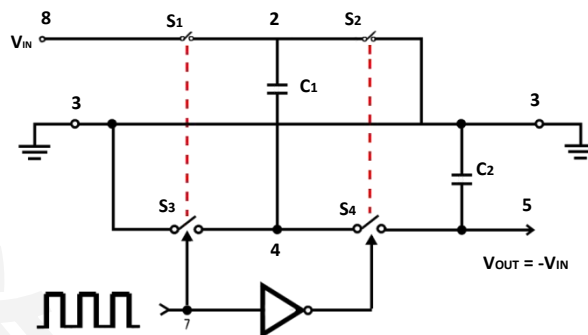
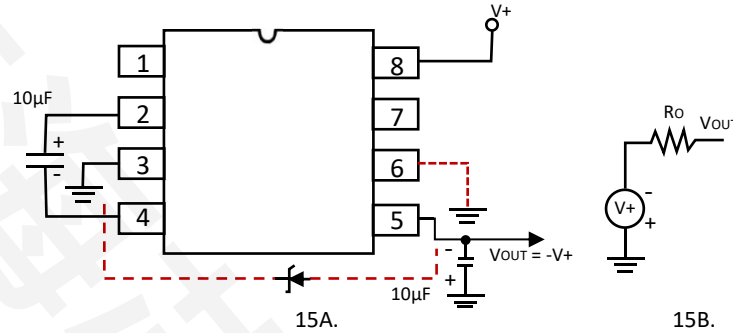
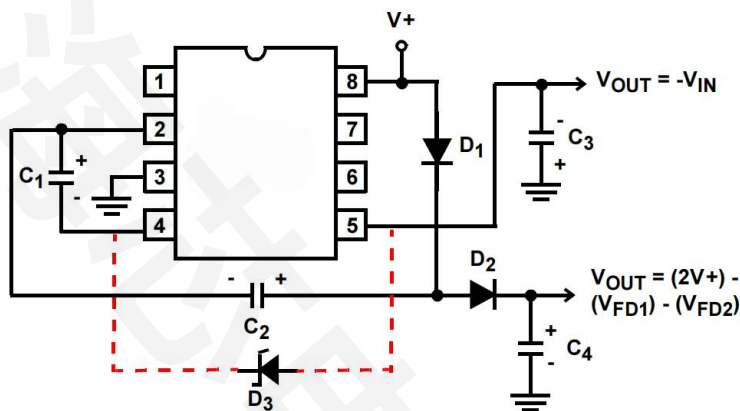
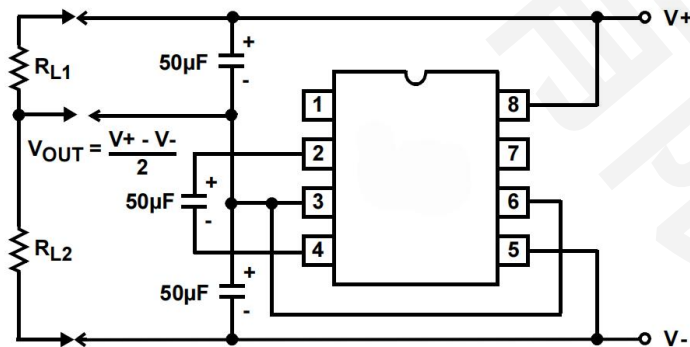

FIGURE 14. IDEALIZED NEGATIVE VOLTAGE CONVERTER
FIGURE 15. SIMPLE NEGATIVE CONVERTER AND ITS OUTPUT EQUIVALENT
FIGURE 19. COMBINED NEGATIVE VOLTAGE CONVERTER AND POSITIVE DOUBLER
FIGURE 20. SPLITTING A SUPPLY IN HALF
The ICL7660ACPAZ-HX contain all the necessary circuitry to complete a negative voltage converter, with the exception of two external capacitors, which may be inexpensive $10\mu F$ polarized electrolytic types. The mode of operation of the device may best be understood by considering Figure 14, which shows an idealized negative voltage converter. Capacitor C_1 is charged to a voltage, V_+ , for the half cycle, when switches S_1 and S_3 are closed. (Note: Switches S_2 and S_4 are open during this half cycle). During the second half cycle of operation, switches S_2 and S_4 are closed, with S_1 and S_3 open, thereby shifting capacitor C_1 to C_2 such that the voltage on C_2 is exactly V_+ , assuming ideal switches and no load on C_2 . The ICL7660ACPAZ-HX approach this ideal situation more closely than existing non-mechanical circuits.
In the ICL7660ACPAZ-HX, the four switches of Figure 14 are MOS power switches; S1 is a P-Channel device; and S2, S3 and S4 are N-Channel devices. The main difficulty with this approach is that in integrating the switches, the substrates of S3 and S4 must always remain reverse biased with respect to their sources, but not so much as to degrade their “ON” resistances. In addition, at circuit start-up, and under output short circuit conditions ($V_{OUT} = V+$), the output voltage must be sensed and the substrate bias adjusted accordingly. Failure to accomplish this would result in high power losses and probable device latch-up.
where V1 and V2 are the voltages on C1 during the pump and transfer cycles. If the impedances of C1 and C2 are relatively high at the pump frequency (see Figure 14) compared to the value of RL, there will be a substantial difference in the voltages, V1 and V2. Therefore it is not only desirable to make C2 as large as possible to eliminate output voltage ripple, but also to employ a correspondingly large value for C1 in order to achieve maximum efficiency of operation.
The majority of applications will undoubtedly utilize the ICL7660ACPAZ-HX for generation of negative supply voltages. Figure 15 shows typical connections to provide a negative supply where a positive supply of +1.5V to +12V is available. Keep in mind that pin 6 (LV) is tied to the supply negative (GND) for supply voltage below 3.5V.
The output characteristics of the circuit in Figure 15 can be approximated by an ideal voltage source in series with a resistance as shown in Figure 15B. The voltage source has a value of $-(V+)$. The output impedance (R_O) is a function of the ON resistance of the internal MOS switches (shown in Figure 14), the switching frequency, the value of C_1 and C_2 , and the ESR (equivalent series resistance) of C_1 and C_2 . A good first order approximation for R_O is shown in Equation 2:
Figure 19 combines the functions shown in Figure 15 and Figure 18 to provide negative voltage conversion and positive voltage doubling simultaneously. This approach would be suitable, for example, for generating +9V and -5V from an existing +5V supply. In this instance, capacitors C1 and C3 perform the pump and reservoir functions, respectively, for negative voltage generation, while capacitors C2 and C4 are pump and reservoir, respectively, for the doubled positive voltage. There is a penalty in this configuration which combines both functions, however, in that the source impedances of the generated supplies will be somewhat higher, due to the finite impedance of the common charge pump driver at pin 2 of the device.
The bidirectional characteristics can also be used to split a high supply in half, as shown in Figure 20. The combined load will be evenly shared between the two sides, and a high value resistor to the LV pin ensures start-up. Because the switches share the load in parallel, the output impedance is much lower than in the standard circuits, and higher currents can be drawn from the device. By using this circuit, and then the circuit of Figure 15, +15V can be converted, via +7.5 and -7.5, to a nominal -15V, although with rather high series output resistance ($\sim 250\Omega$).